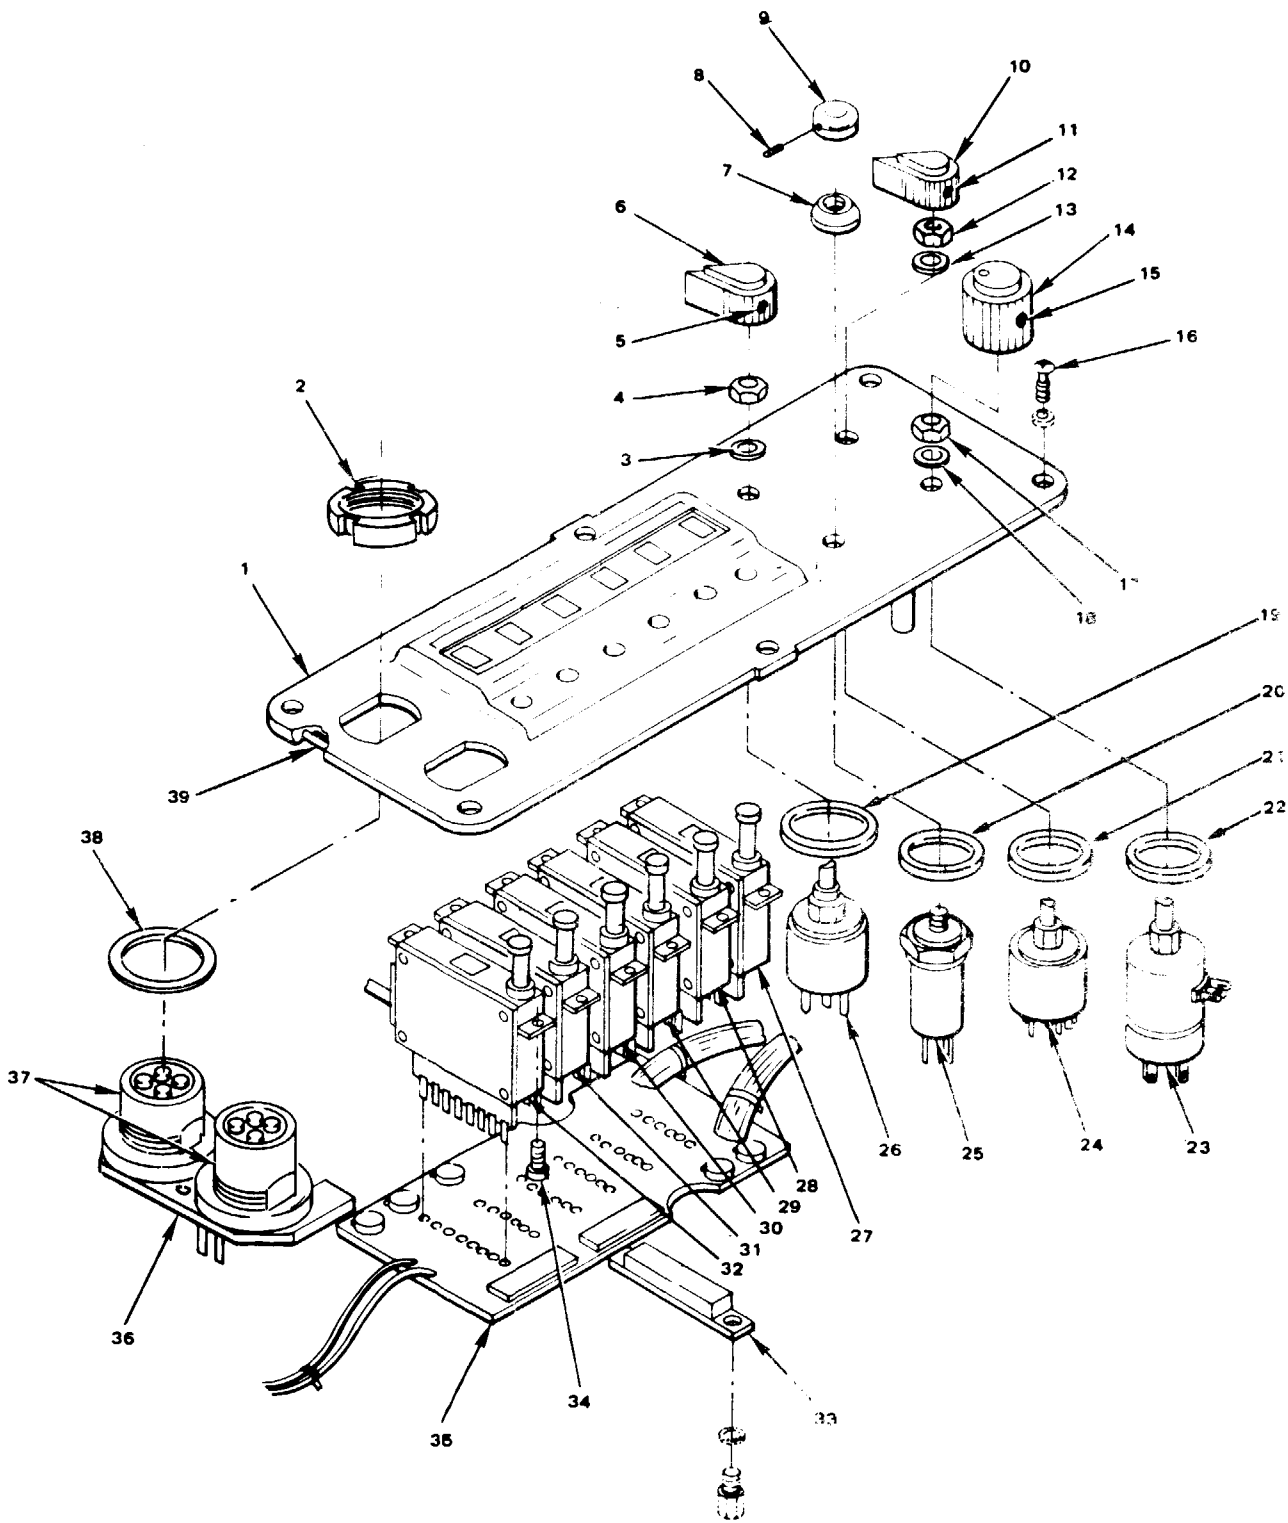

Figure 5-3. Control Panel A1A4
- 5-39. GENERAL . for the receiver/exciter (A1), figure 5-2, and the control panel (A1A4), figure 5-3. These diagrams support the disassembly and reassembly procedures of section II.